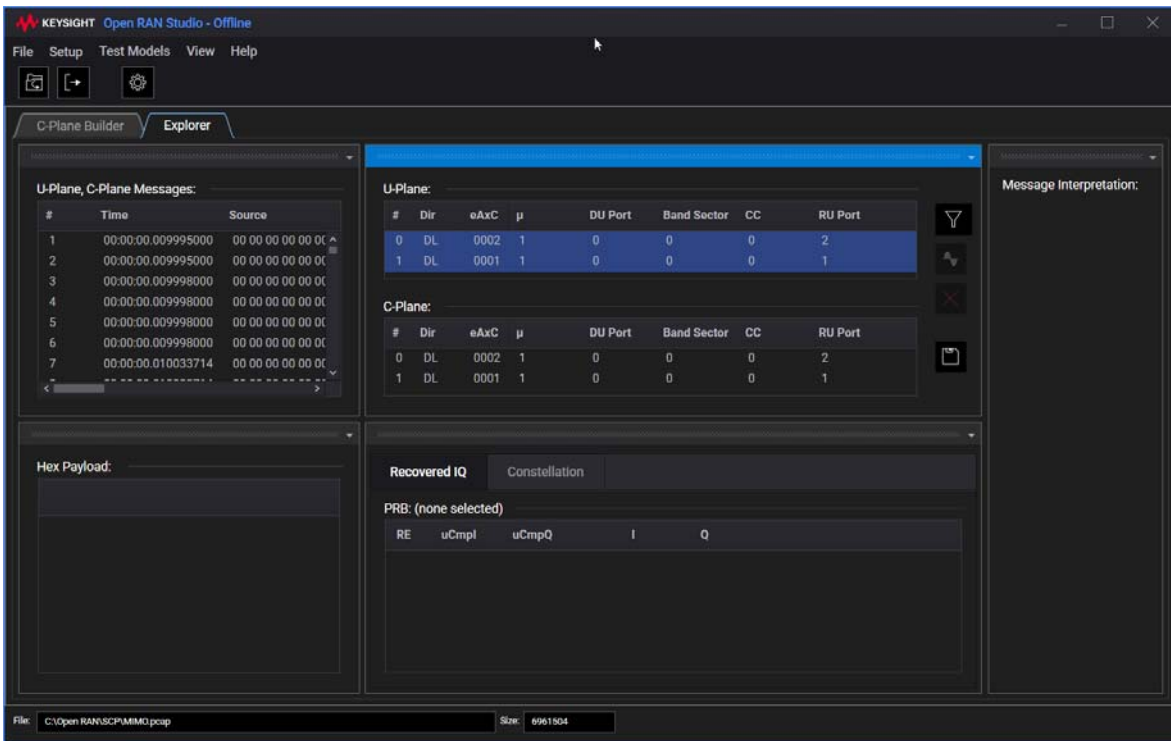

Figure 384 Selecting U-Plane eAxC flow in serial order with CTRL key
Notice that In the U-Plane area, there are two flows, as shown in Figure 384, according to the number of Flow/eAxC IDs assigned earlier.
- 8 Click the first flow in order, that is, 0001. Then, press and hold the CTRL key to select the next in order, which is 0002. See Figure 384.